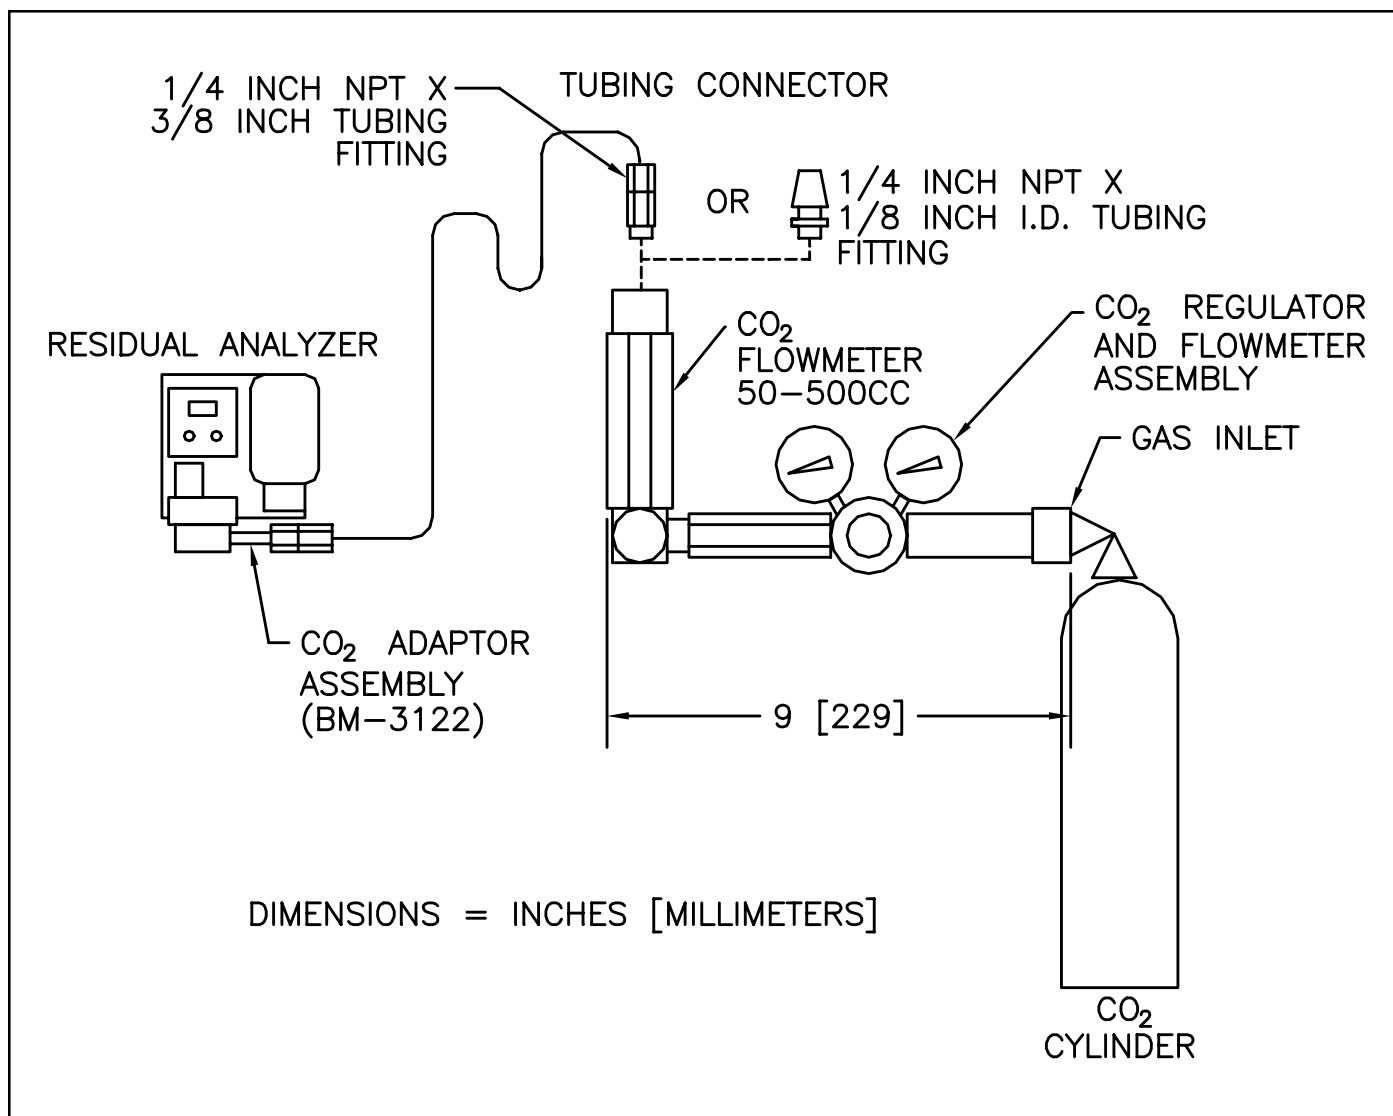

Figure 10 - Carbon Dioxide Regulator Assembly Installation
2. Mount the pressure regulator on the carbon dioxide cylinder and connect it to the diffuser assembly inlet with 3/8" tubing. (see Figure 10)